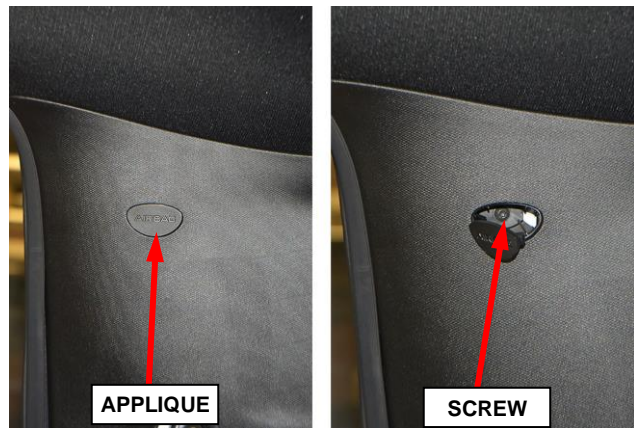

Figure 43 – C-Pillar Upper Trim Panel
13. Using a trim stick or equivalent, release the C-pillar airbag applique then remove the screw that secures the upper trim panel (Figure 43).
45. Install and tighten the screw that secures the C-pillar upper trim panel. Then install the airbag applique (Figure 43).